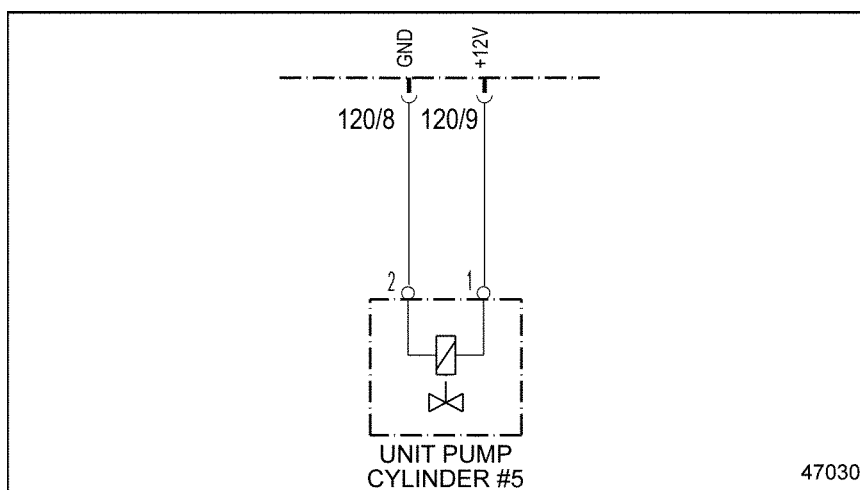

Figure 48-2 Electronic Unit Pump #5
3. Disconnect pins 1 and 2 of Electronic Unit Pump #5. See Figure 48-2.